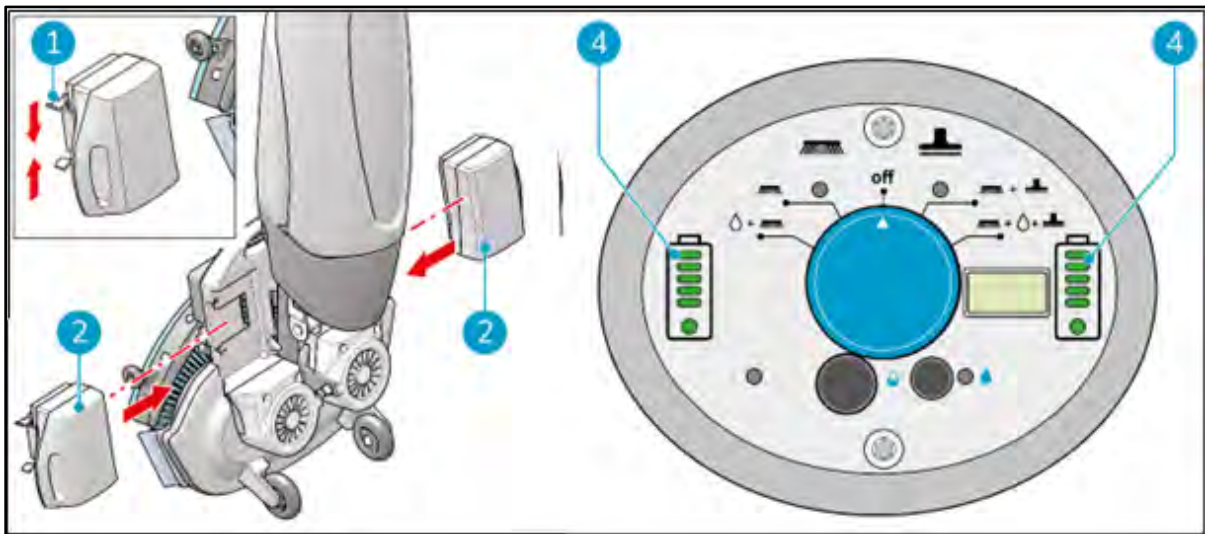

Figure 14
The battery clips (Figure 14, pos 1) are color-coded; blue or grey. The clips correspond with the color-coded battery slots.
1. Push the blue coded battery (Figure 14, pos 2) in the blue battery slot. A click indicates that the battery is locked in place.
2. Push the grey coded battery (Figure 14, pos 3) in the grey battery slot. A click indicates that the battery is locked in place.
3. During operation, the battery indicators (Figure 14, pos 4) on the control panel show the amount of power left.